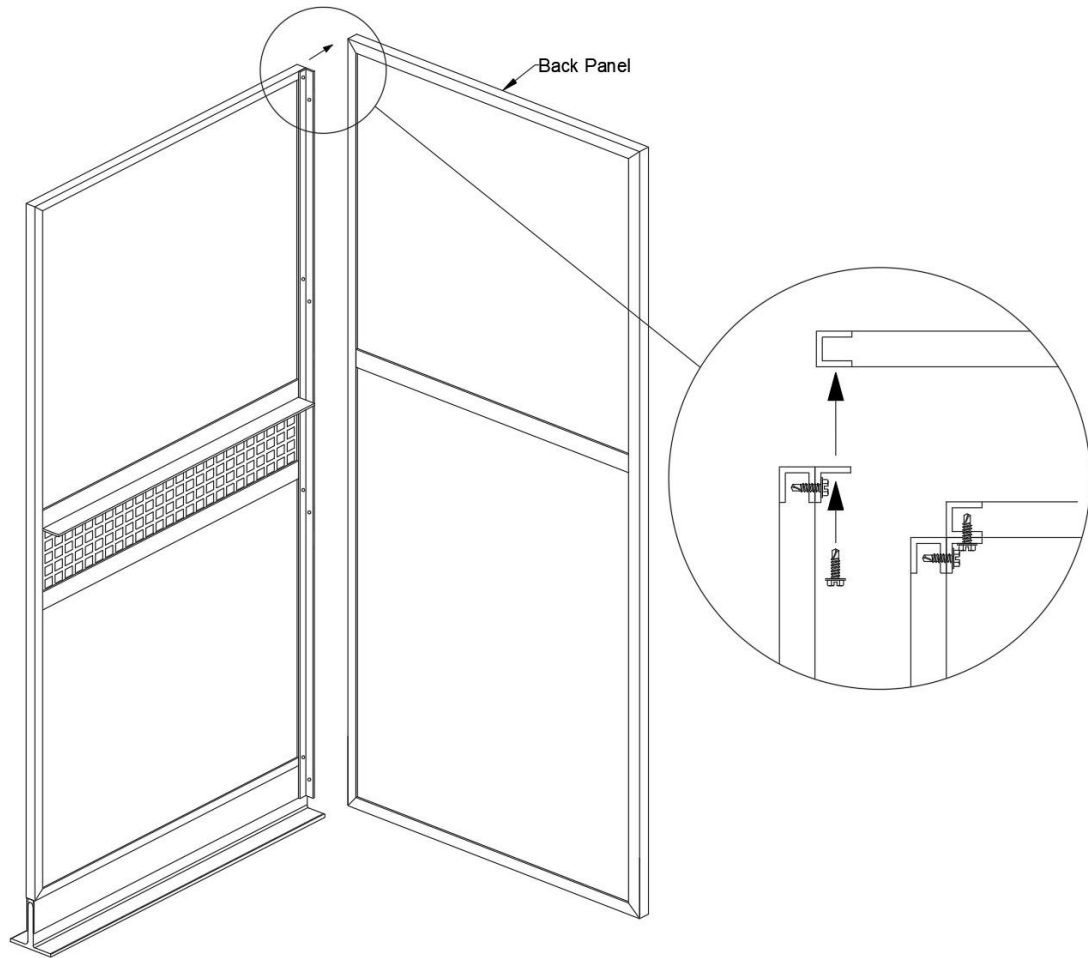

Figure D.2
4. Starting from the point you selected in step C-1 place the first “outside division panel” on the corresponding “Sanislope T”. Place the adjacent back panel as shown in Figure D.2. Note that the vertical edges of the panel are flush with each other.